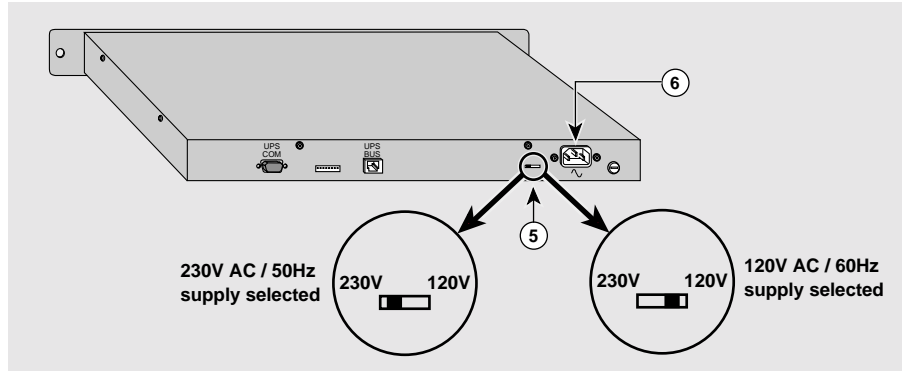

Fig. 3
Set the appropriate voltage (230V or 120V) using the selector **5** (see figure 3). A 500 mA 250V delayed fuse protects the module against electrical faults.
- ▶ check the position of the input voltage selector (see figure 3),